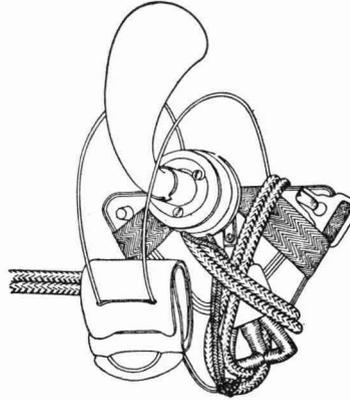

Fig. 5
4.04 With the right hand, wind the doubled plug cord slanting across the back of the plate approaching the front at the top of the breastplate and to the left of the transmitter. Swing the cord slanting across the front of the breastplate, over the plug to the right, and around to the back approaching the front on the left side, as in Fig. 5.